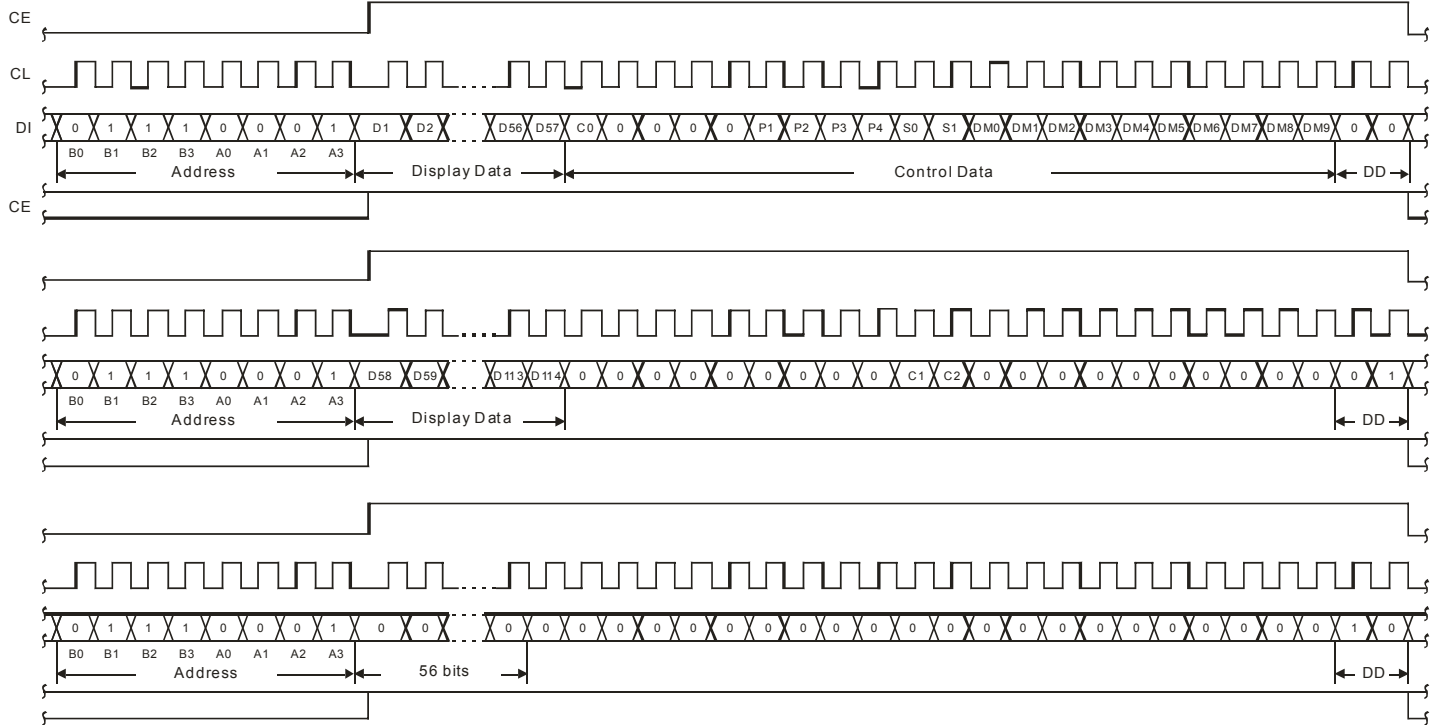

Figure 3
2. Address : Applications must send the value (8E_H) as shown in figure 3 & 4